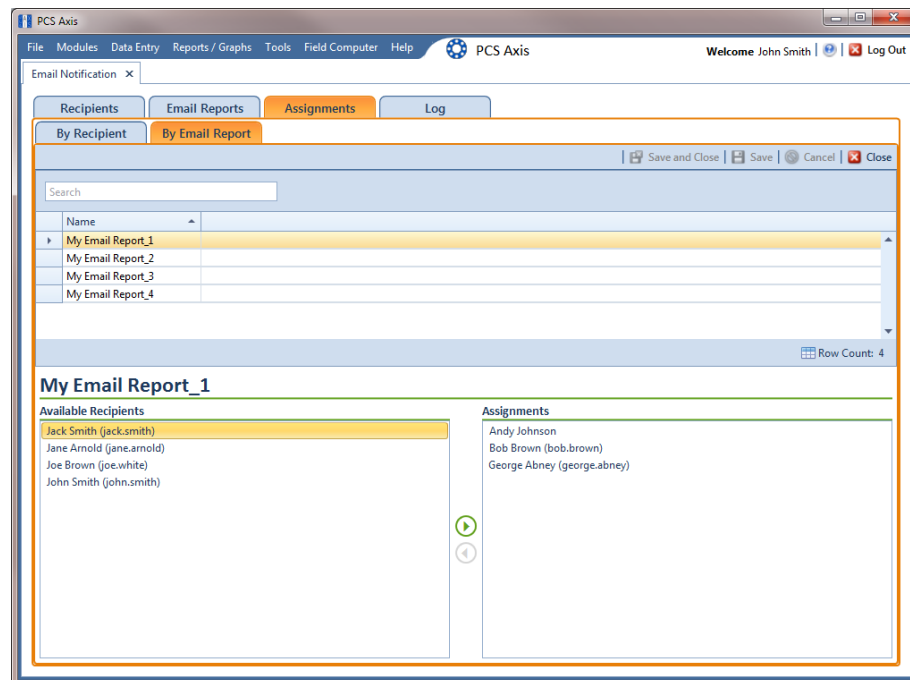

Figure 12-13. Assignments by Email Report
- a Click **By Email Report** **By Email Report** (Figure 12-13).